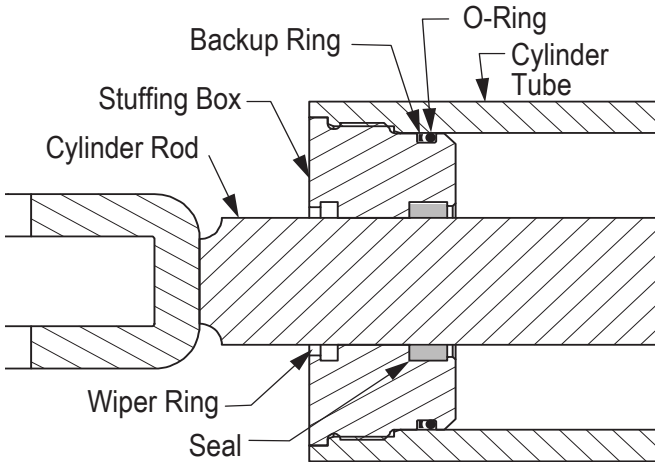

Figure 4-6, Stuffing Box Seal
3. Install the seals and wipers in the stuffing box. Note the direction of the seals. The cupped side or O-ring side of the seal should be facing the piston (Figure 4-6). Refer to your parts manual for information specific to your model.